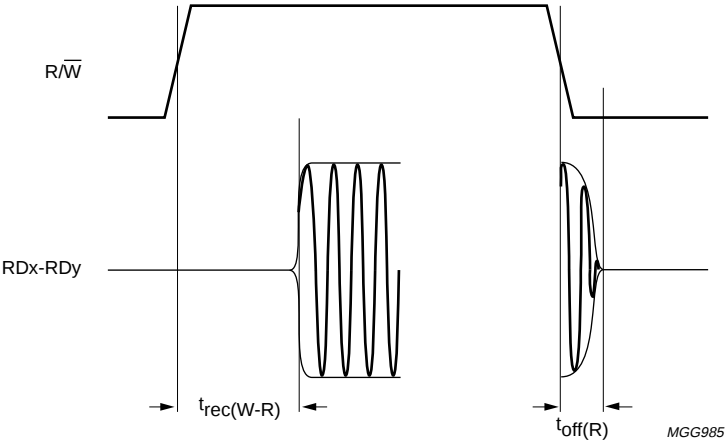

Fig.5 Timing diagram of the reader: write-to-read switching on the same logic head.
9. Write-to-read recovery time includes the write mode to read mode switching using the R/W pin on the same head (see Fig.5). The AC signal reaches its full amplitude few tens of ns after appearing at the reader RDx and RDy outputs.
10. In read mode, the head switching, standby to read active switching and changing MR current include fast current settling (see Fig.5). The AC signal reaches its full amplitude few tenth of ns after appearing at the reader RDx and RDy outputs.